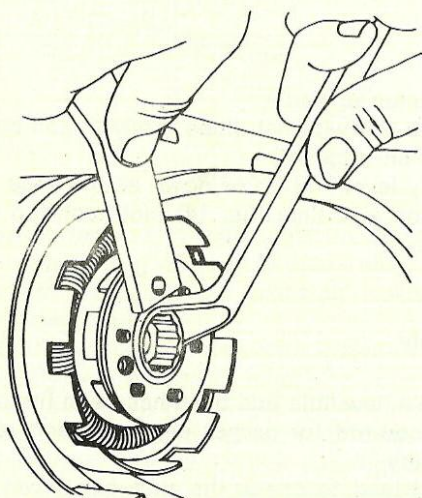

fig. 10
- flatten tab washer under central nut and remove nut (SW 17) and washer. While undoing nut, hold hub using special tool (nr. 4 on page 13). Fig. 10.